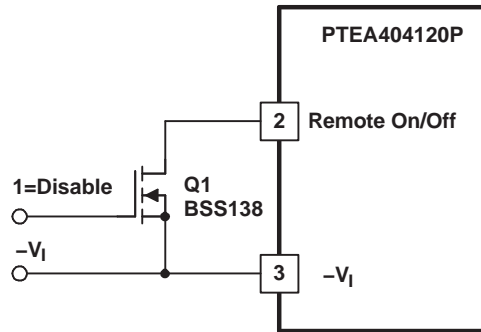
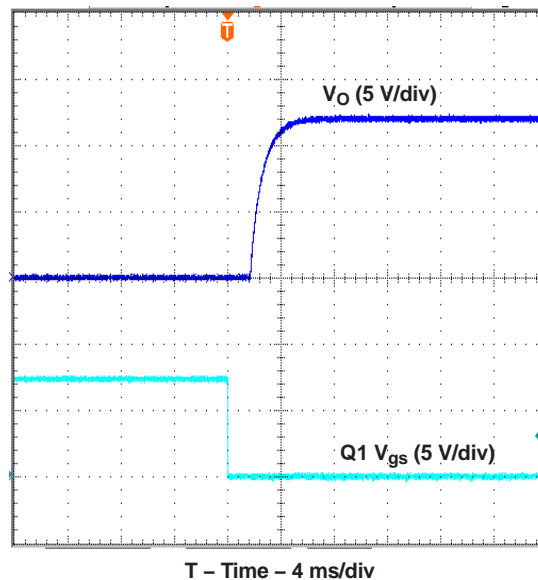

Figure 5. Recommended Control or Remote On/Off Input
Figure 6. Power Up
**Turn-On:** With a valid input source voltage applied, the converter produces a regulated output voltage within 10 ms of the output being enabled. Figure 6 shows the output response of the PTEA following the removal of the logic-low signal from the *Remote On/Off* (pin 2); see Figure 5. This corresponds to the drop in Q1  $V_{GS}$  in Figure 6. Although the rise-time of the output voltage is short (<5 ms), the indicated delay time will vary depending upon the input voltage and the module's internal timing. The waveforms were measured with 48 VDC input voltage, and a 4-A resistive load.